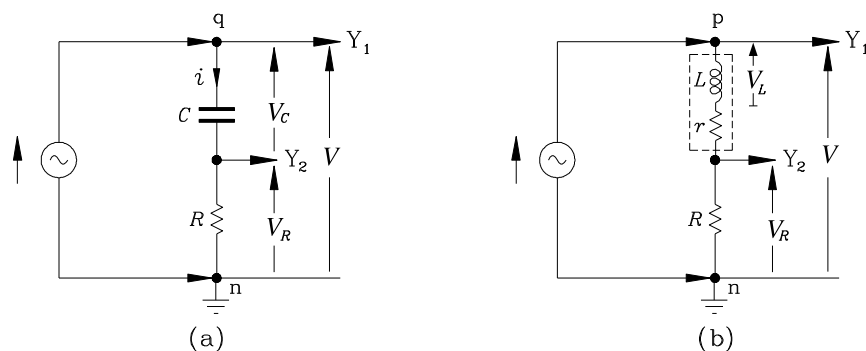

Figure 7: Measuring phase shifts in RC and RL circuits
- (16) Connect up the circuit illustrated in Figure 7(a) and make the following initial settings:
- (20) Repeat procedures (18) and (19) for the inductor circuit of Figure 7(b).